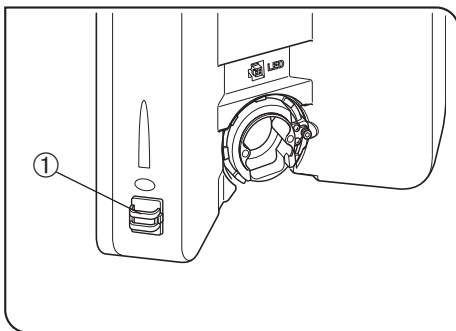

Fig. 36
### 2 Attaching the Halogen Lamp Socket (Figs. 36 to 38)
#### Installing the U-LS30ADP LS30 Adapter (Fig. 36)
4. Pass the lamp cable through the cable holder ① (Fig. 36).